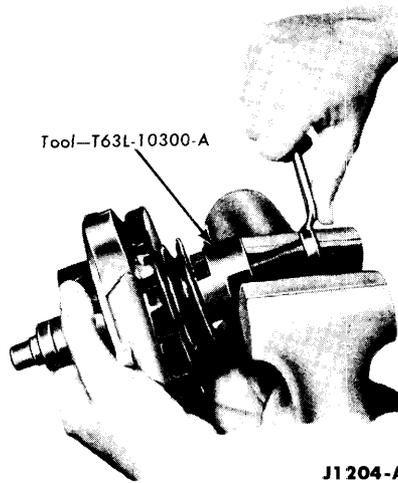

FIG. 45—Pulley Removal
10. Remove the drive pulley (Fig. 45).